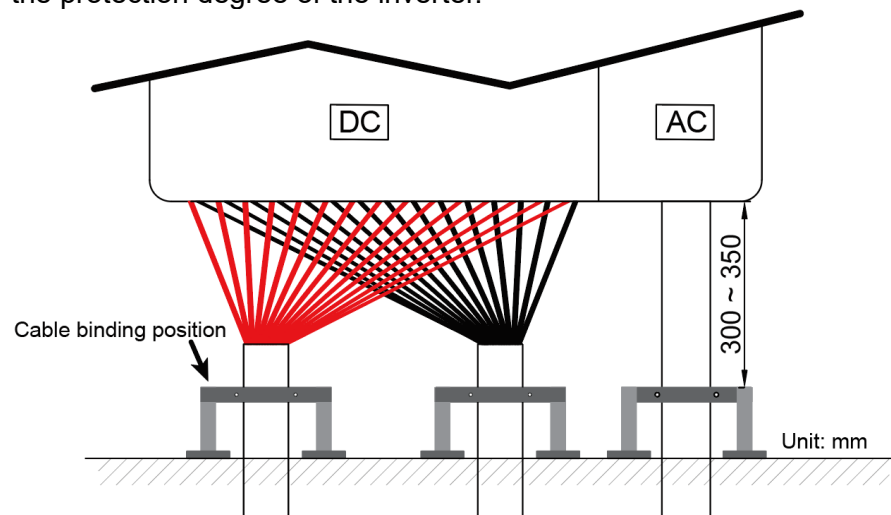

Fig. 4-20 Bind cables
- Bind cables at positions 300 ~ 350 mm away from DC connectors and AC sealing plates (refer to Fig. 4-20). Otherwise, swaying, or swaying cables may loosen the connectors or sealing plates, which may affect the protection degree of the inverter.